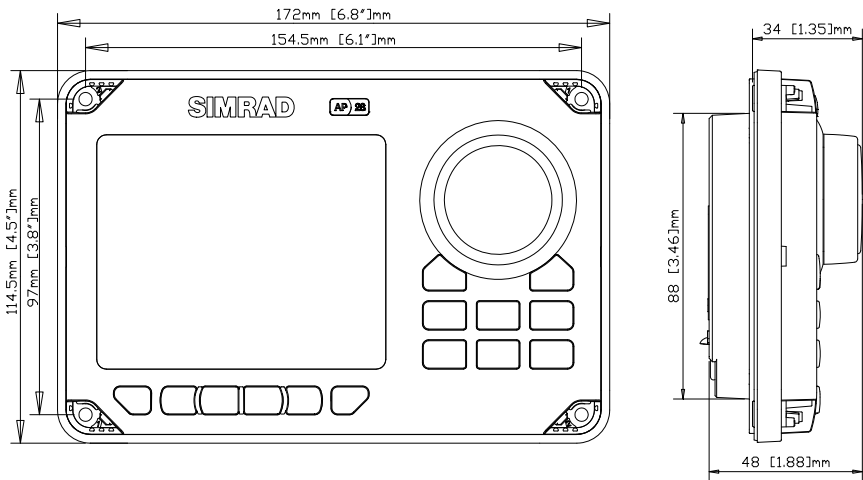

Figure 4-2 AP28 Control Unit – dimensions
- Dimensions: ..... See Figure 4-2
- SimNet Network load factor (NL): ..... 3